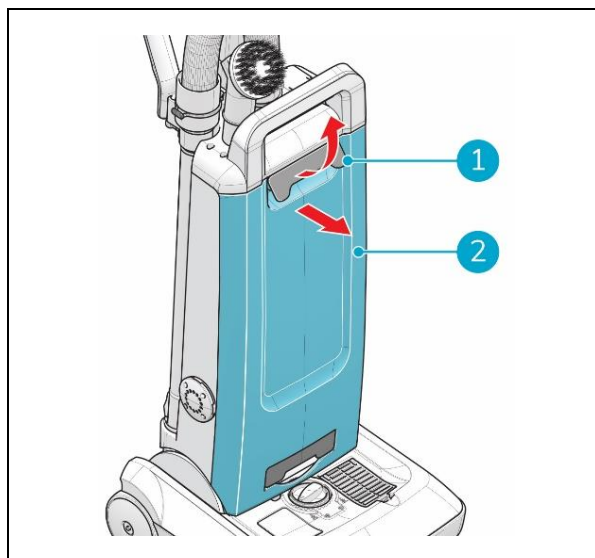

Figure 11
1. Pull the front cover release handle (Figure 11, pos 1).
2. Remove the front cover (Figure 11, pos 2).